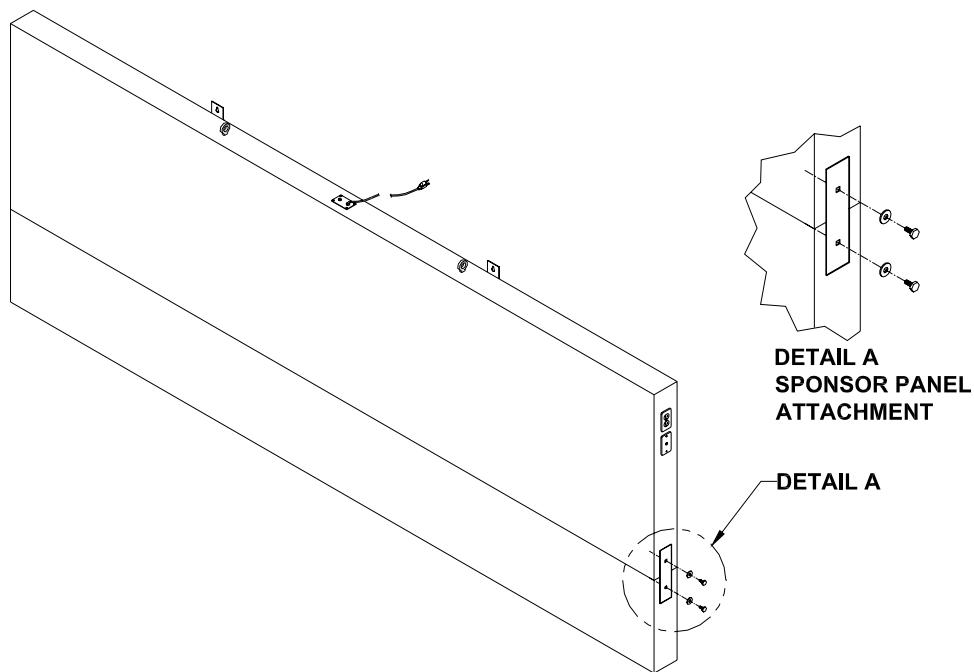

Figure 3 2665 with Bottom Sponsor Panel Attached
2. Fasten an attachment plate to the right side of the scoreboard and sponsor panel using the provided washers and bolts as shown in figure 3.